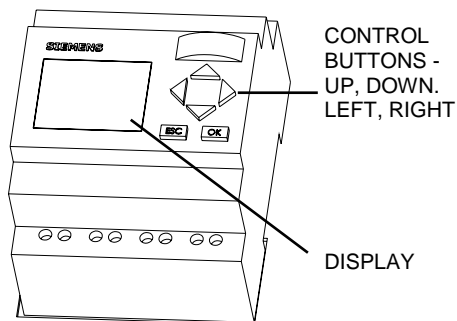

Fig. 6a
1. Locate the Siemens "Logo" microprocessor behind the machine's rear cover (Fig. 6a).